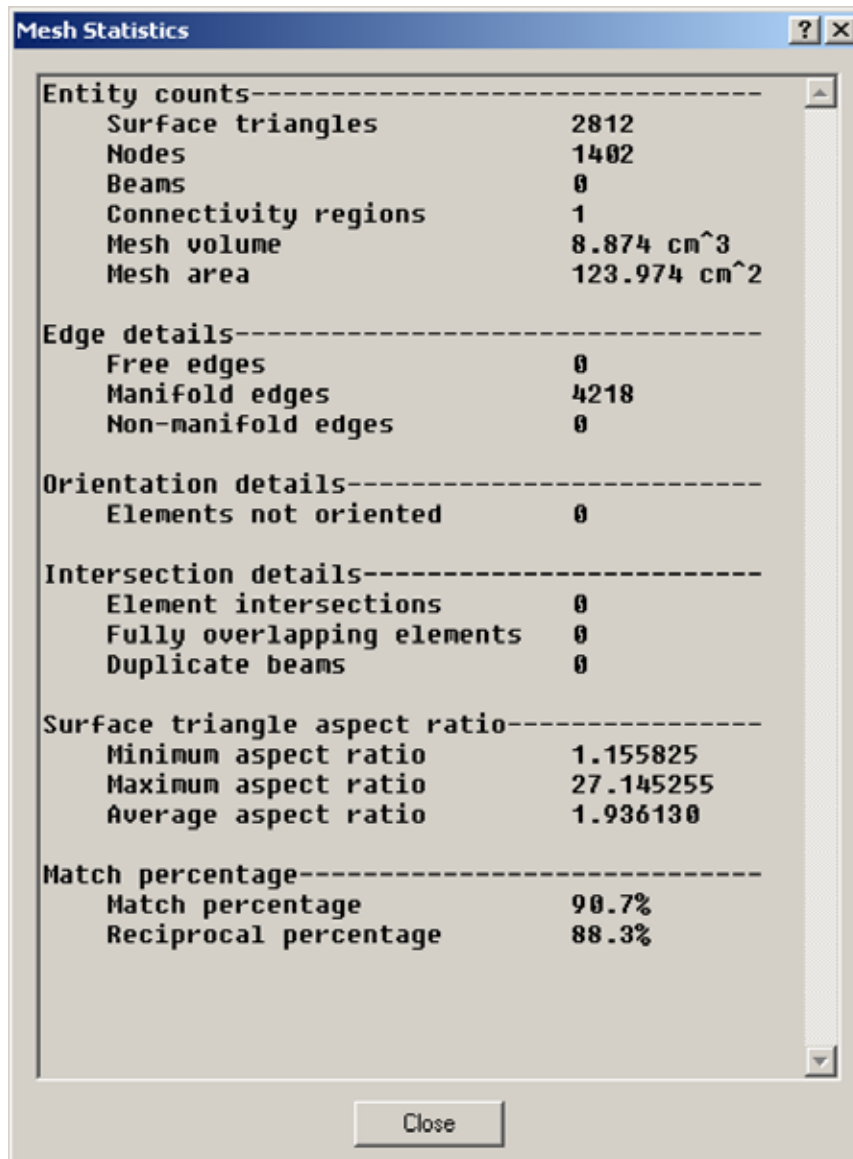

Figure 15: Mesh Statistics Report
2. Scan the Mesh Statistics report for any quality issues, as shown in **Figure 15** above.